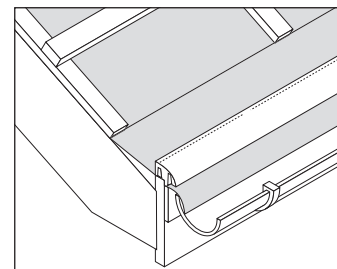

Fig. 7
- 1 Install the roofing underlay over the rafters, ensuring sufficient drape into gutter (Fig 7).